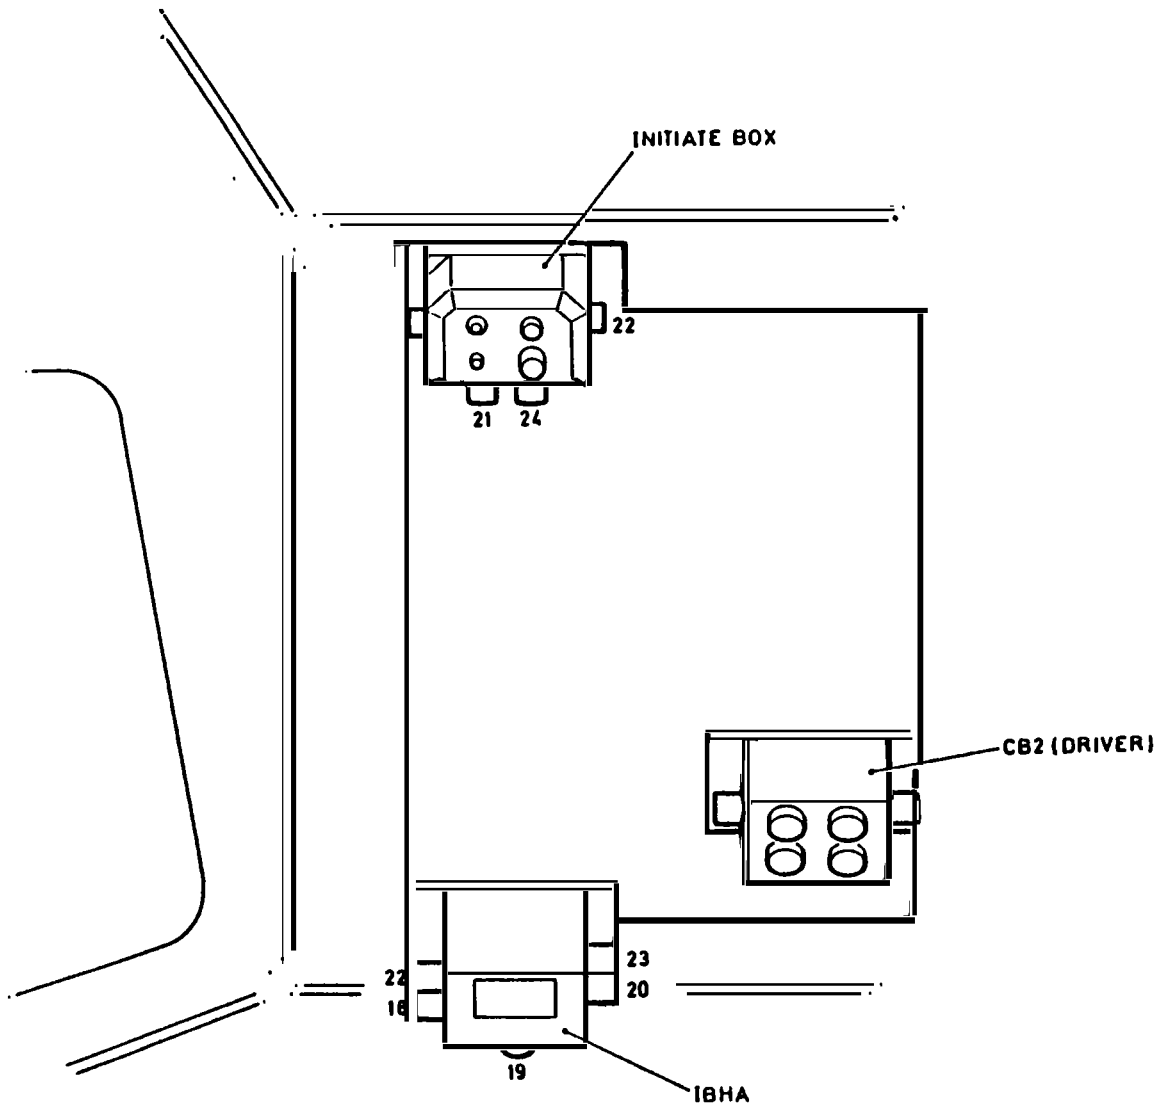

Fig 7 IBHA and initiate box locations diagram
13.2.1 Locate the two fixing holes at the rear r.h. corner of turret. (See Cat 302, Chap 1, Fig 7).
Fit the IBHA (10) to the universal mounting plate as per Fig 7 and Table 2, operation 6.
Fit the initiate box (9) to the universal mounting plate as per Fig 7 and Table 2, operation 7.